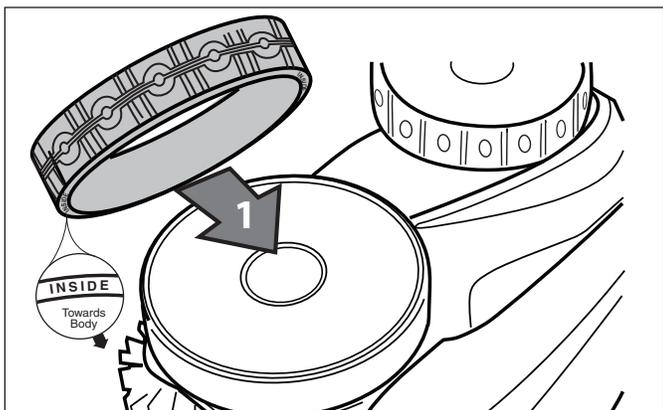

Figure 37. Tire Replacement Orientation
- To replace the tire, position the tire on the wheel making sure to orient the tire so that the word **INSIDE** is toward the body of the cleaner. See Figure 37.